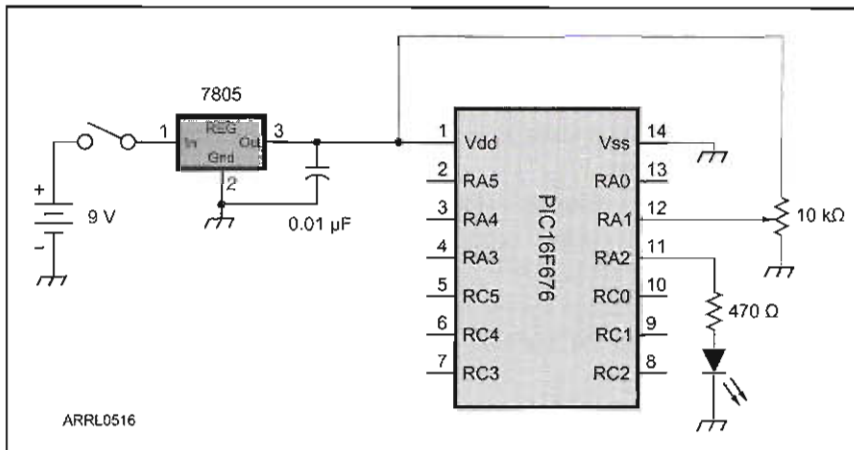

Figure 12-5
**Build the circuit as detailed in Figure 12-5**
Build the circuit as detailed in Figure 12-5. Load the program project **Program Files/Ch 12 Program/Comparator\_3** into *MPLAB IDE* and open the .asm file for study. In this exercise, you will be configuring the comparator so that the internal reference voltage will be applied to the  $C_{IN+}$  comparator input. Then you will change the value of the reference voltage by making code adjustments. With